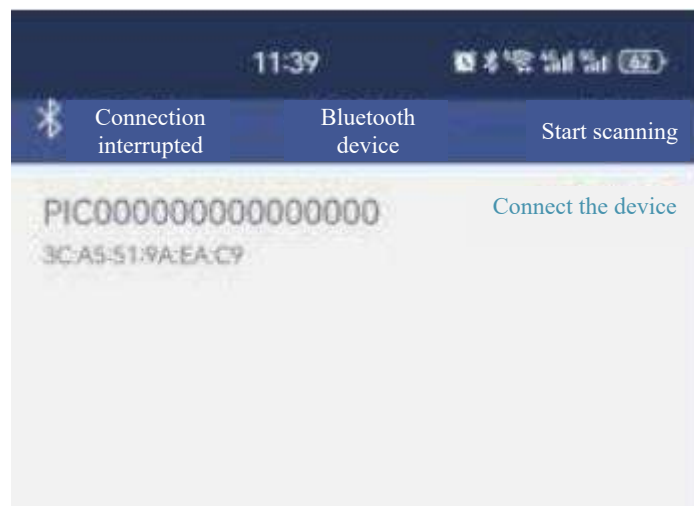

Figure 2.7
- ③ After finding the device through scanning, choose the device to be connected and click [Connect the Device] button and the mobile end will communicate with the device in real time, as shown in Figure 2.7